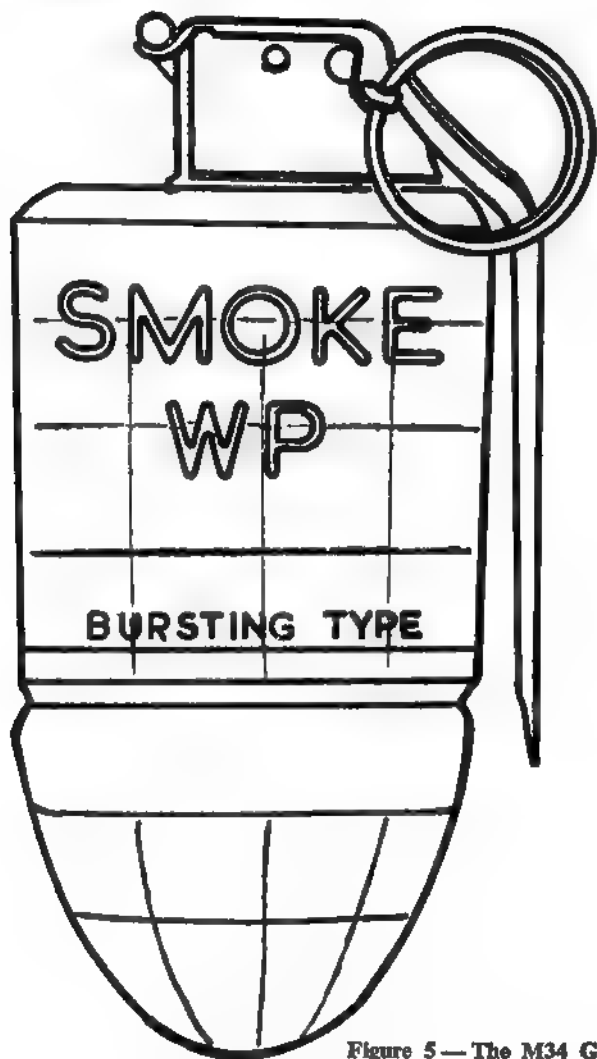

Figure 5 — The M34 Grenade
87. A diagram of the M34 grenade to show colour markings and a container for the grenade. (See Figure 5).